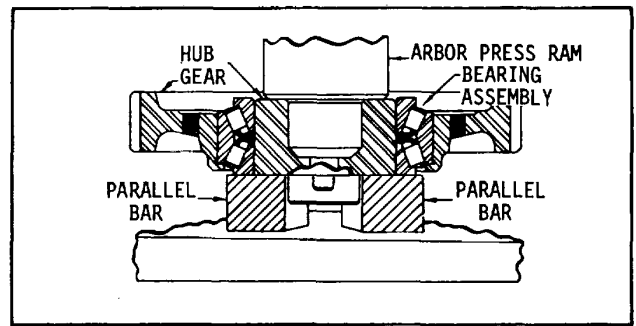
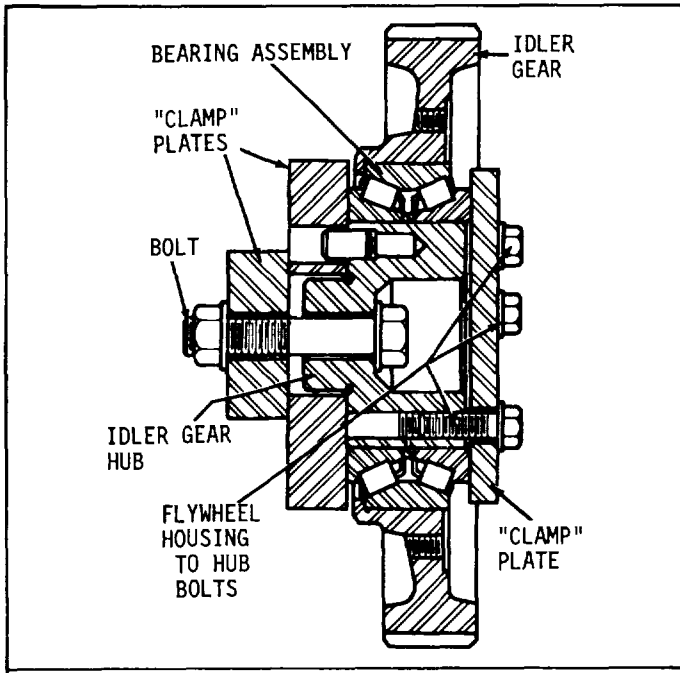
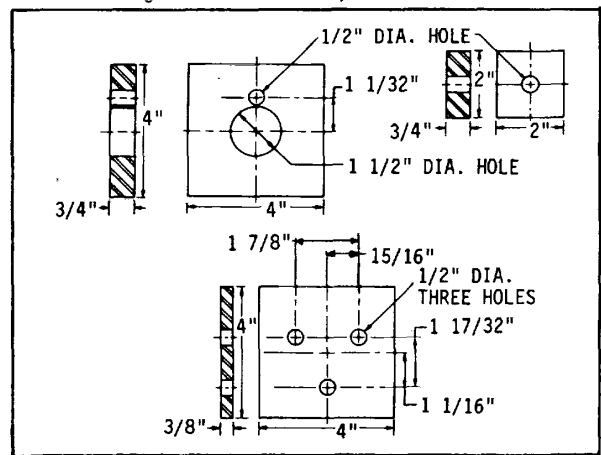
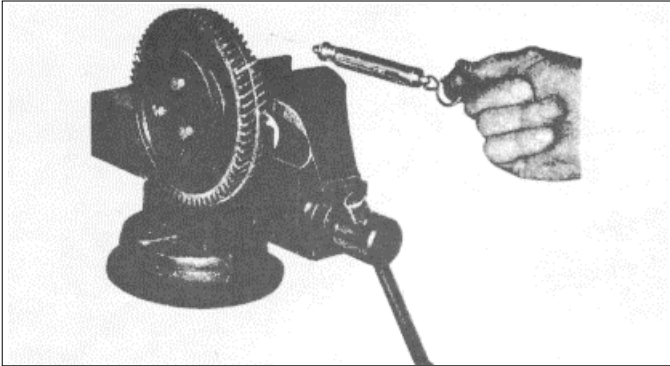

Fig. 5
Fig. 6
Fig. 7
Fig. 8
bearing cones must be supported so as no load the bearing rollers during this operation (Fig. 5).
- (1) Mount the idler gear assembly on the engine.
- (2) Install the center bolt and washer through the gear hub and into the cylinder block. Tighten the bolt to 80-90 ft-lbs (108-122 Nm) torque.
- (3) Place steel plate (lower plate shown in Fig. 7) against hub and bearing. Insert three 3/8"-16 bolts through the plate and thread them into the hub. Tighten the bolts to 24-40 ft-lbs (34-54 Nm) torque.
- (4) Tie one end of a piece of lintless 1/8" cord around a 1/8" round piece of wood (or soft metal stock). Place the wood between the teeth of gear, then wrap the cord around the periphery of the gear several times. Attach the other end of the cord to spring scale, J 8129 (Fig. 8). Maintain a straight steady pull on the cord and scale, 90° to the axis of the hub, and note the pull, in
If the crankshaft and camshaft gears are mounted on the engine, a suitable fixture, which may be held in a vise, can be made as shown in Fig. 6. Three plates (shown in Fig. 7) a 1/2"-13 x 2-3/4" bolt and a plain washer are used with a 1/2"-13 nut and plain washer for mounting. One of the plates is used to take the place of the flywheel housing, and the other two plates, the cylinder block. Engine-mounted conditions are simulated by tightening the nut to 80-90 ft-lbs (108-122 Nm) torque and tightening the three plate-to-hub attaching bolts to 25-40 ft-lbs (34-54 Nm) torque.
- (1) Attach the plates (two upper plates shown in Fig. 7) to the idler gear with 1/2"-13 bolt, washers and nuts as shown in Fig. 5. Tighten the bolt to 80-90 ft-lbs (108-122 Nm) torque.
- (2) Attach the third plate to the idler gear hub with three 3/8"-16 bolts. Tighten the bolts to 25-40 ft-lbs (34-54 Nm) torque.
- (3) Clamp the idler gear assembly and fixture in vise (Fig. 8).
- (4) Attach the cord to the idler gear and spring scale and check the pre-load as outlined in Step 4 of the previous method.